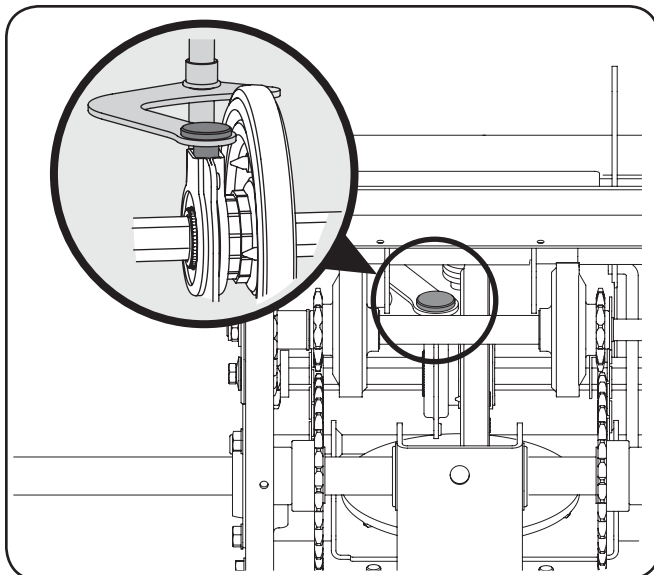

Figure 7-12
9. Reposition the friction wheel assembly in the snow thrower frame. Insert the pin from the shift arm assembly into the friction wheel assembly and hold assembly in position. Refer to Fig. 7-12.